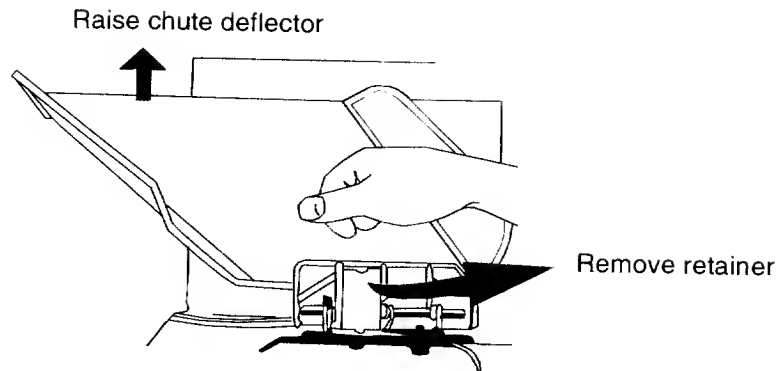

FIGURE 10
- Push the chute deflector up and towards the engine. Holding the deflector in this position, remove the retainer. See Figure 10.